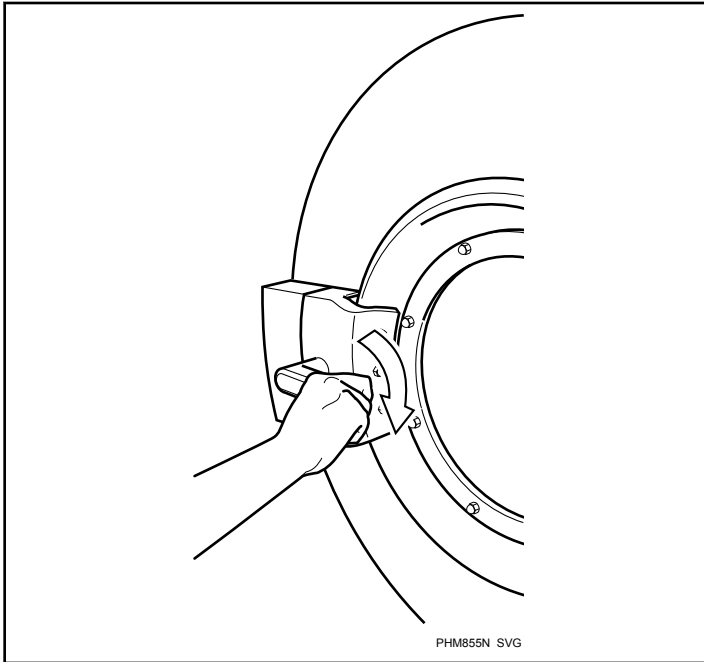

Figure 45
2. Turn handle clockwise to open. Refer to *Figure 45*.